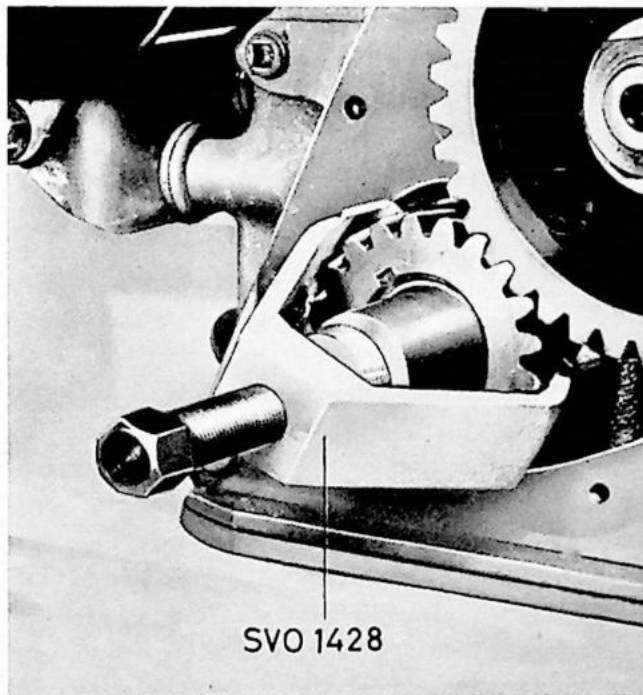

Fig. 43.
6. Pull out camshaft towards the front after removing thrust flange 1, Fig. 43.
11. Pull off crankshaft gear with tool SVO 1428 A (SVO 1428), Fig. 43.